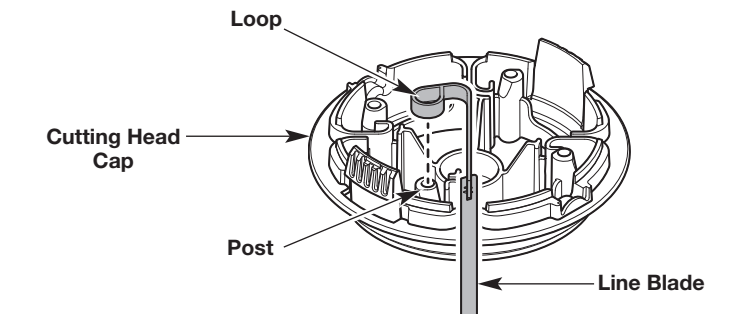

Fig. 31
5. Hold one of the line blades so that the loop faces to the left. Align the loop with one of the posts on the cutting head cap (Fig. 31). Push the loop onto the post securely.